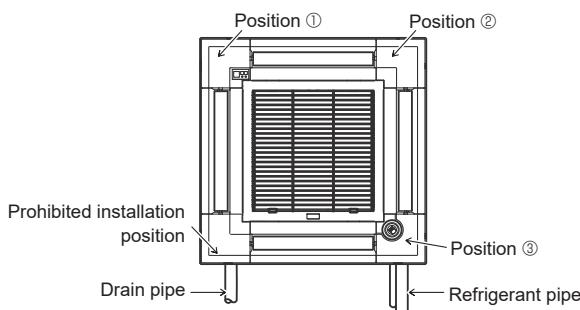

Fig. 9-10
- The i-see Sensor corner panel should be fixed onto the grille ① with screw ③.
- If the position of the i-see Sensor was changed from default position (Position ③) to the other position, change the function settings. (Refer to page 12 and Fig. 9-10)
- The i-see Sensor corner panel can not be installed on the drain pipe side for the main unit. (Refer to Fig. 9-10)